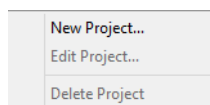

Figure 4-68: Projects Tab Menu.
1. Right-click in a blank area in the **Projects** Tab to display the Tab menu (Figure 4-68).